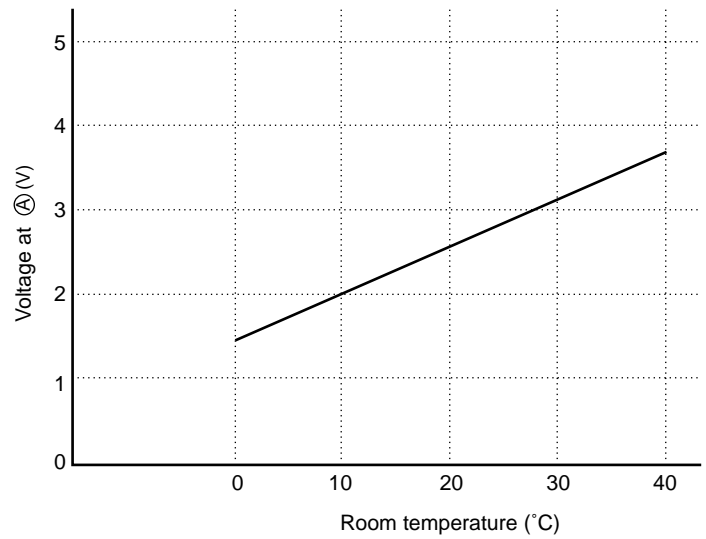

Fig. 5-2
- The voltage at Ⓐ depends on the room temperature as shown in Fig. 5-2.